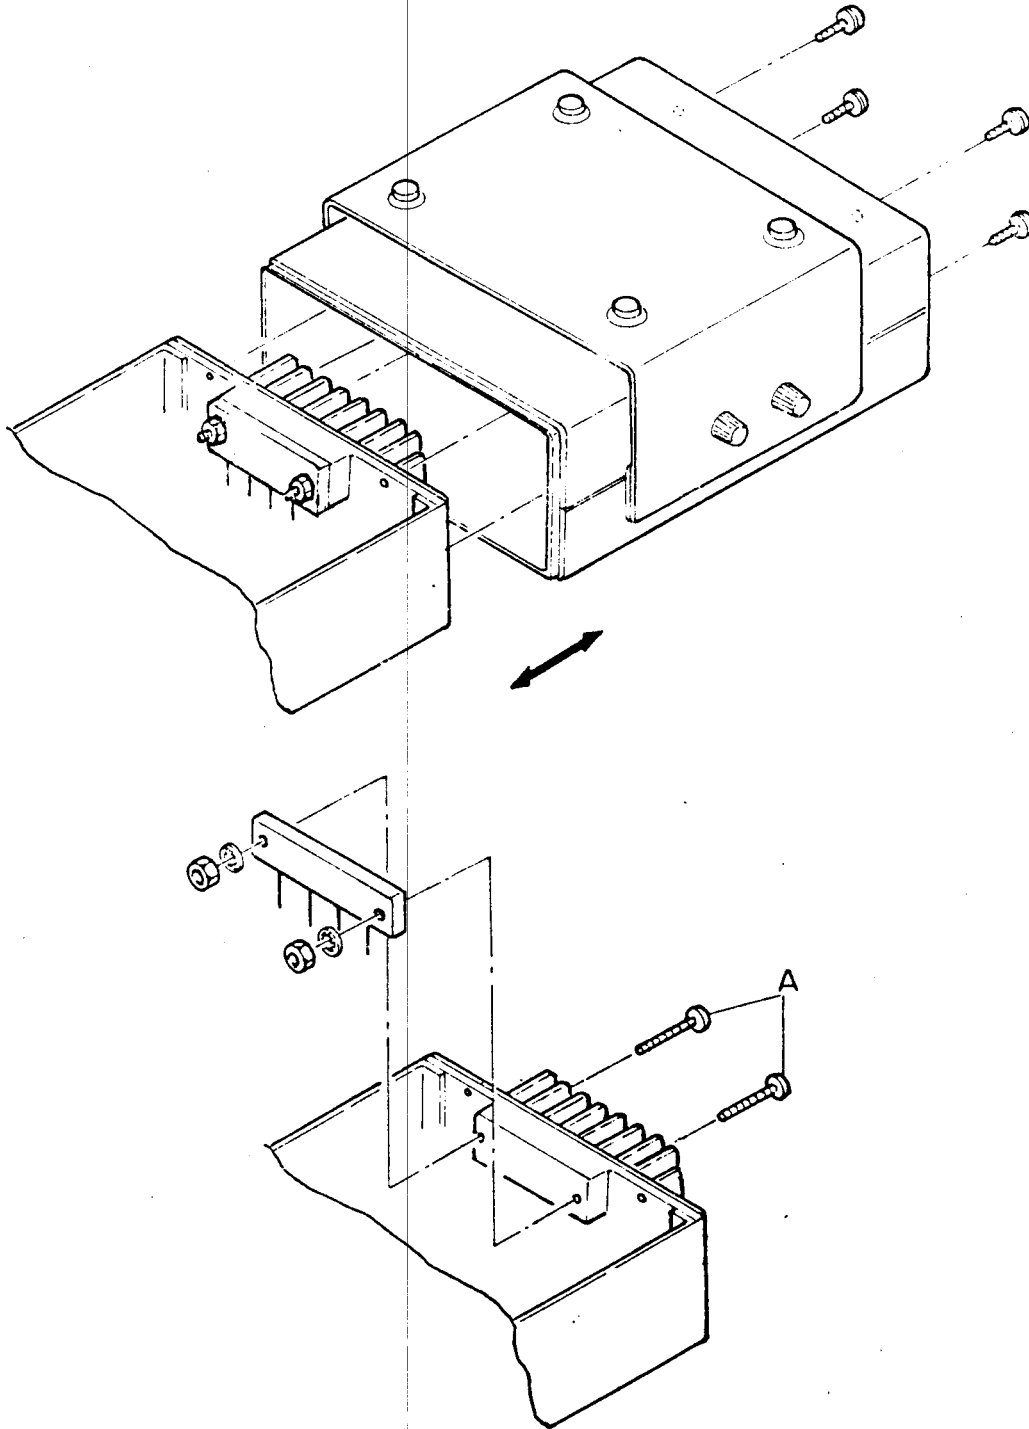

Figure 5-2 Power Module (IC1) Replacement
- 4) Check IC1. (See Figure 5-2)
- 1) Check RF input level to IC1. If low, check input level to Mixer Q3 and gain of Q1, 2. If normal, check IC1 and Antenna SW circuit. (See Figure 5-2)